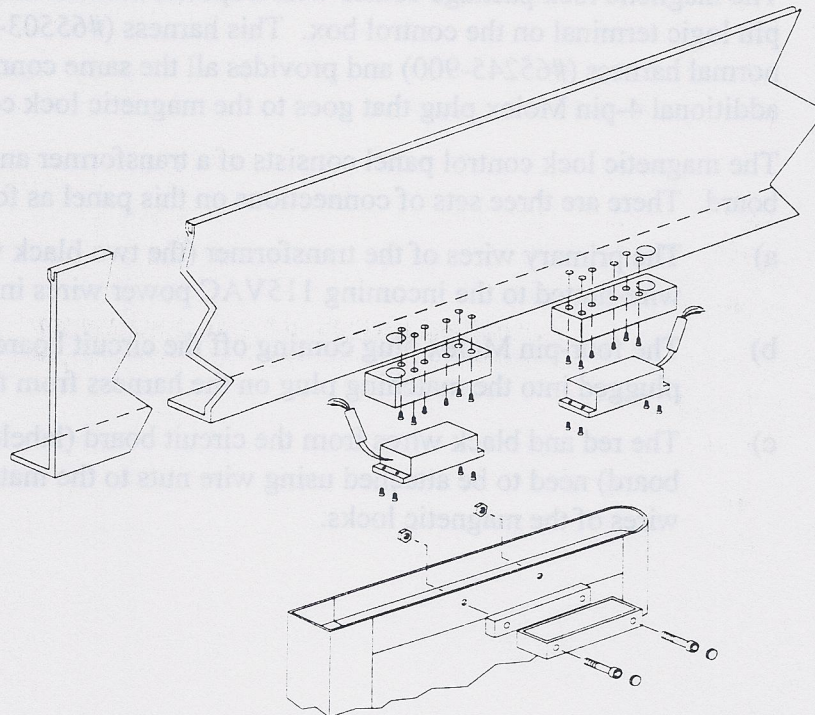

Figure 31: Attaching the Mag-Locks and Armatures to the Header and Doors.
1. All holes for the magnetic locks should be pre-drilled for you at the factory. Simply attach the locks to the doors with the screws provided as shown in Figure 31.